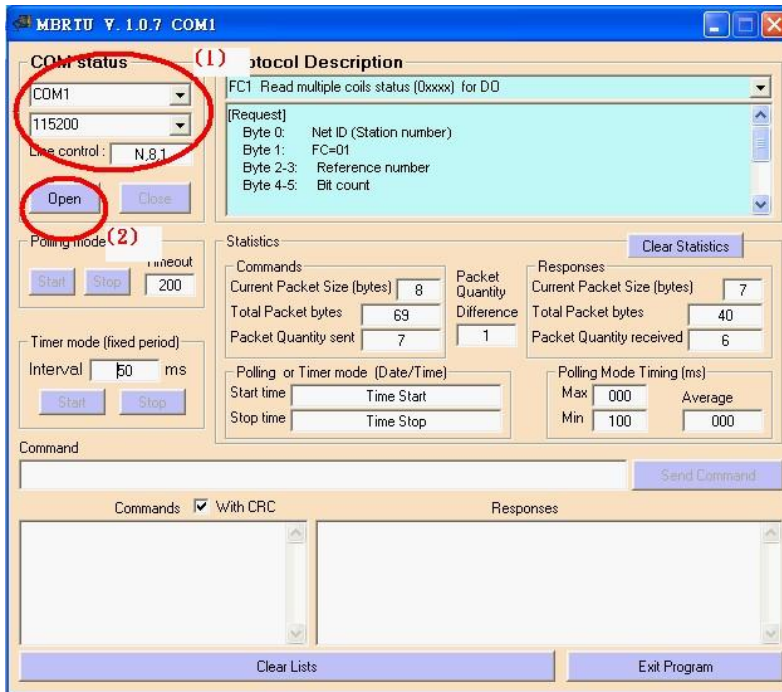

Figure 41 MBRTU Utility
-- Start the test utility “MBRTU” (*Figure 41*) on the PC.